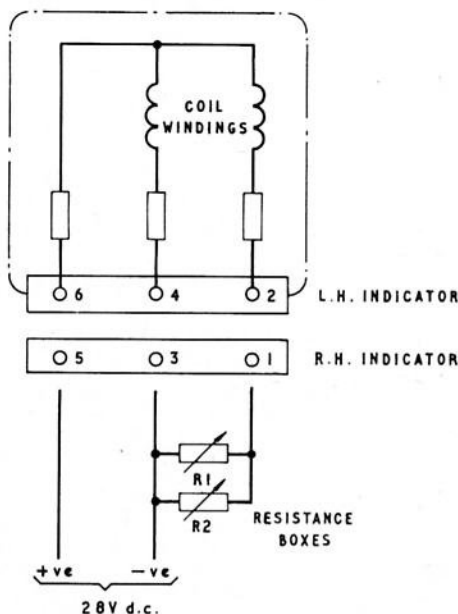

Fig. 2. Circuit and test circuit diagram
3. The combined circuit and test circuit diagram is shown in fig. 2. Connection to the indicator is made by means of six 4 B.A. terminal screws, fitted with captive washers, at the rear of the indicator.